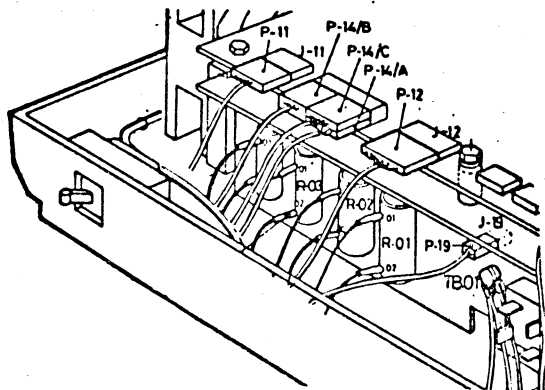

Fig. 7-19 Resistance/Connector Localization
- . Disconnect the motor power cable P14A on the DRIVE PWA. (See fig. 7-19 )
- . Unsolder the connections on resistances R.03-01 and R.04-01 (See fig. 7-19 )
- . Connect power cable P14A on the DRIVE PWA (fig. 7-19)